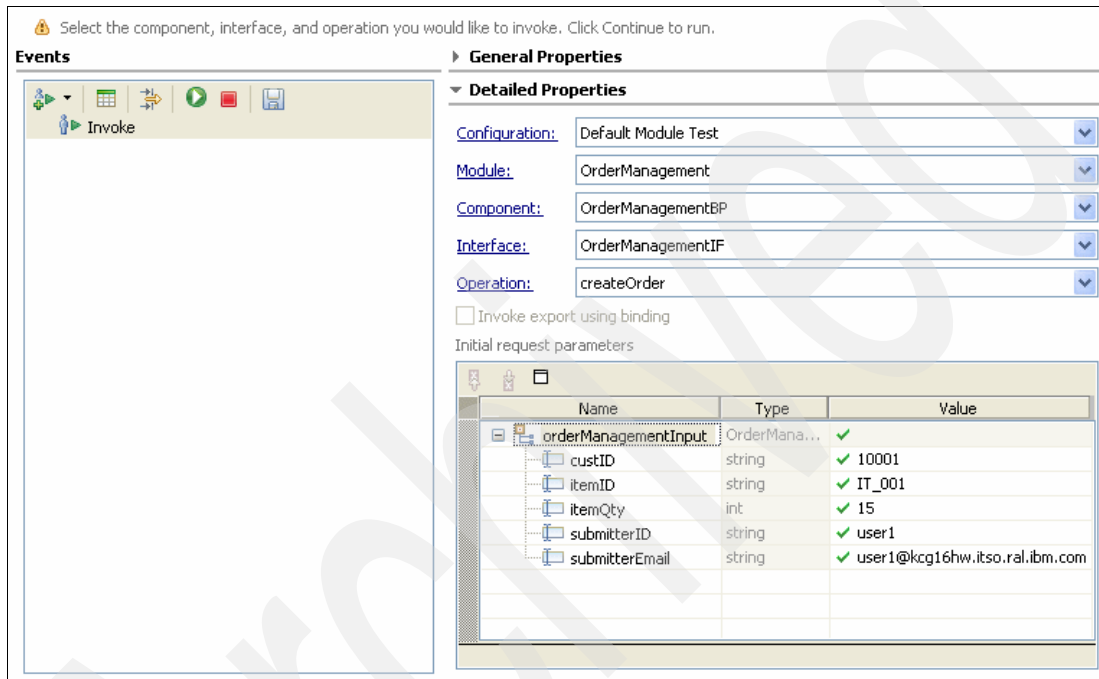

Figure 3-48 Initial request parameters of OrderManagement component test
- b. Browse to the directory and select the orderManagementInput\_APPROVE.xml file. Click **Open**. The values for the initial request parameters are filled in as shown in Figure 3-48.